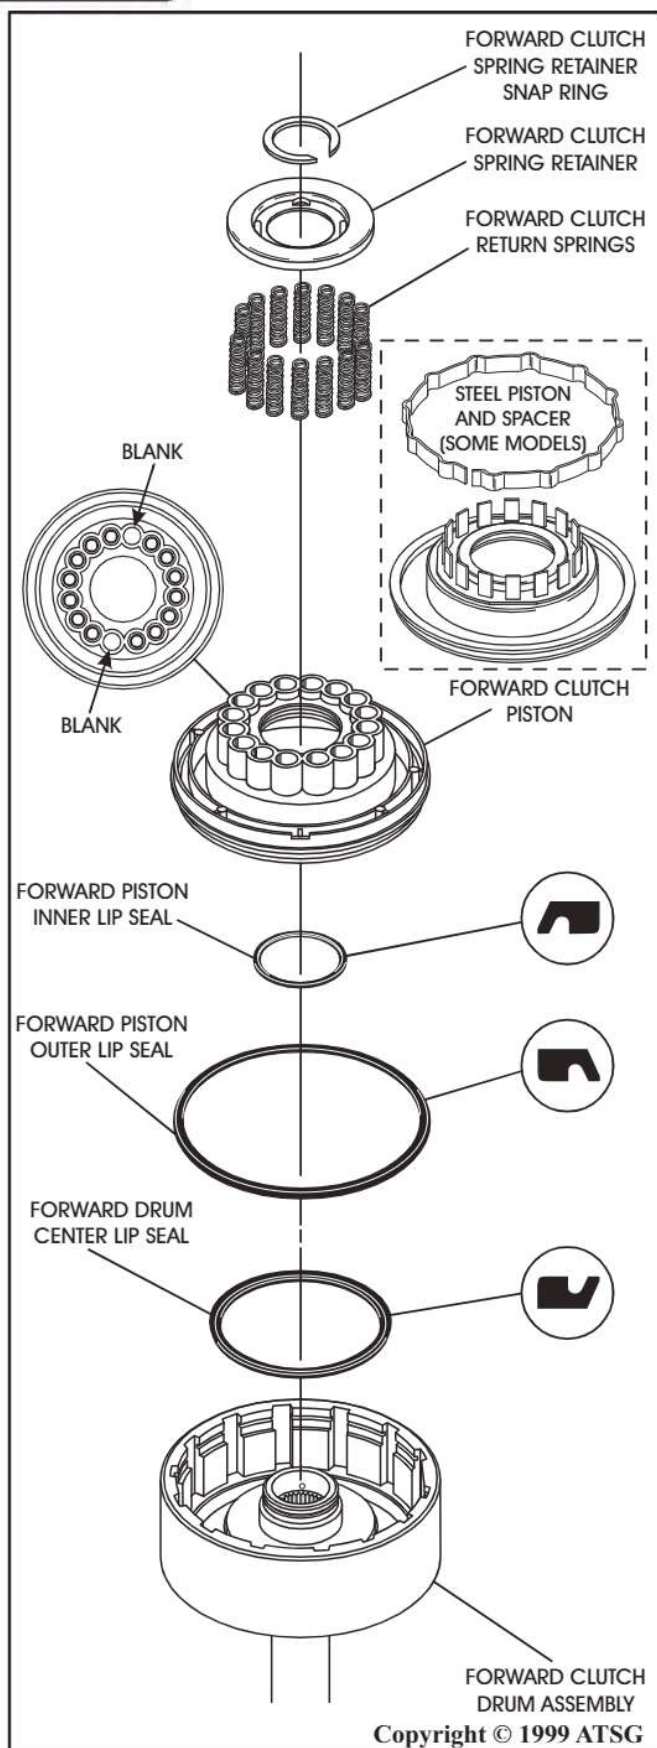

Figure 87
9. Install new forward center drum lip seal into the groove in forward drum, with the lip facing the direction shown in Figure 87, and lubricate with a small amount of TransJelö.
10. Install new forward clutch piston outer lip seal in groove of forward clutch piston, with the lip facing in the direction shown in Figure 87.
11. Install new forward clutch piston inner lip seal in groove of forward clutch piston, with the lip facing in the direction shown in Figure 87.
- Note: Some models use stamped steel forward clutch piston and spacer (See Figure 87).**
16. Install 14 forward clutch piston return springs into the cavities in the piston in the positions shown in Figure 87, leaving two blank pockets 180 degrees from one another.